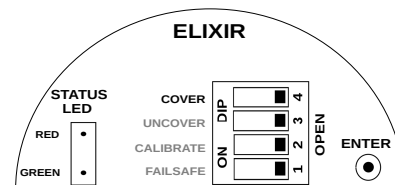

Figure 22: Saving Cover Delay
4. Cover delay is entered, but not saved. To save and test the cover delay, set the COVER switch back to OPEN position as shown in Figure 22.